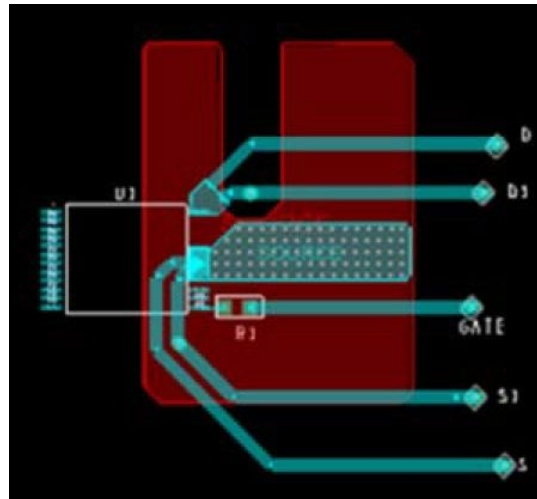

Figure 40. Thermal Resistance Test Conditions for PowiGaN Devices (INN3378C, INN3379C and INN3370C.)
Testing performed on custom thermal test PCB as shown in Figure 40. The test board consists of 2 layers of 2 oz. Cu with the InSOP package mounted to the top surface and connected to a bottom layer Cu heat sinking area of 550 mm2.
- Please see Figure 40.